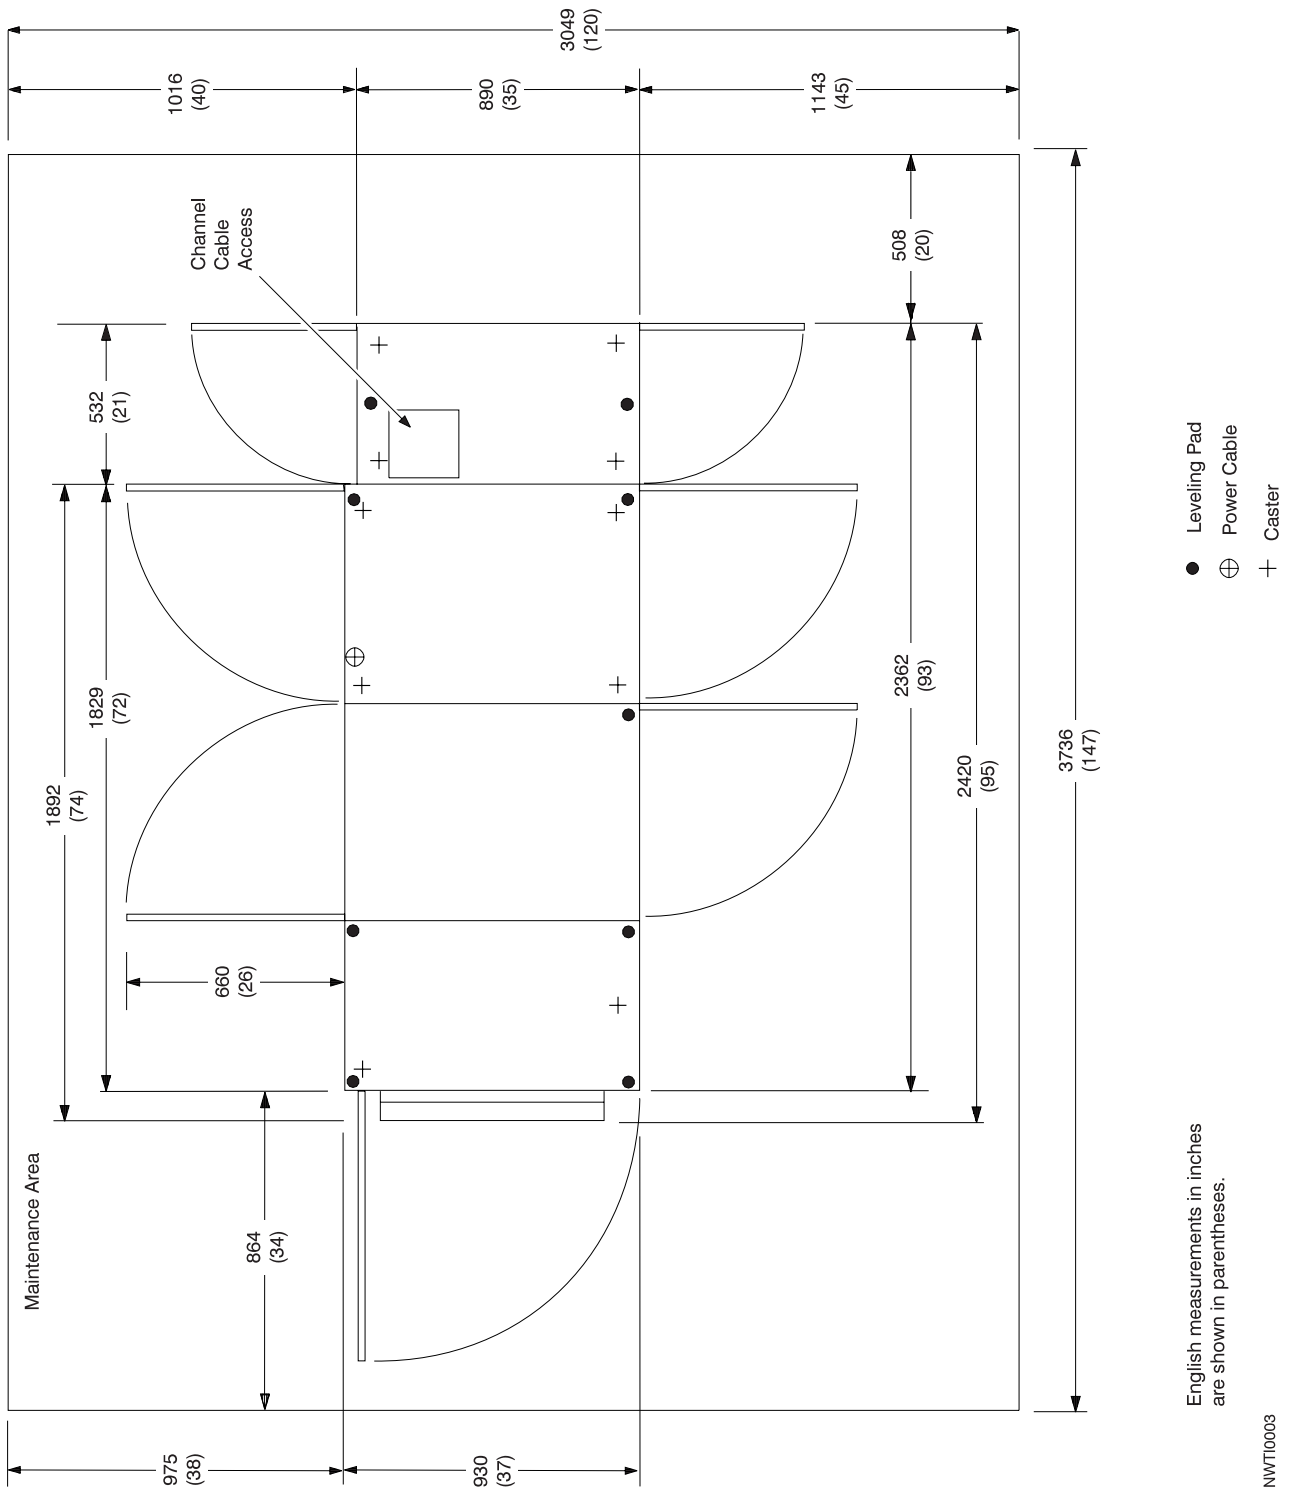
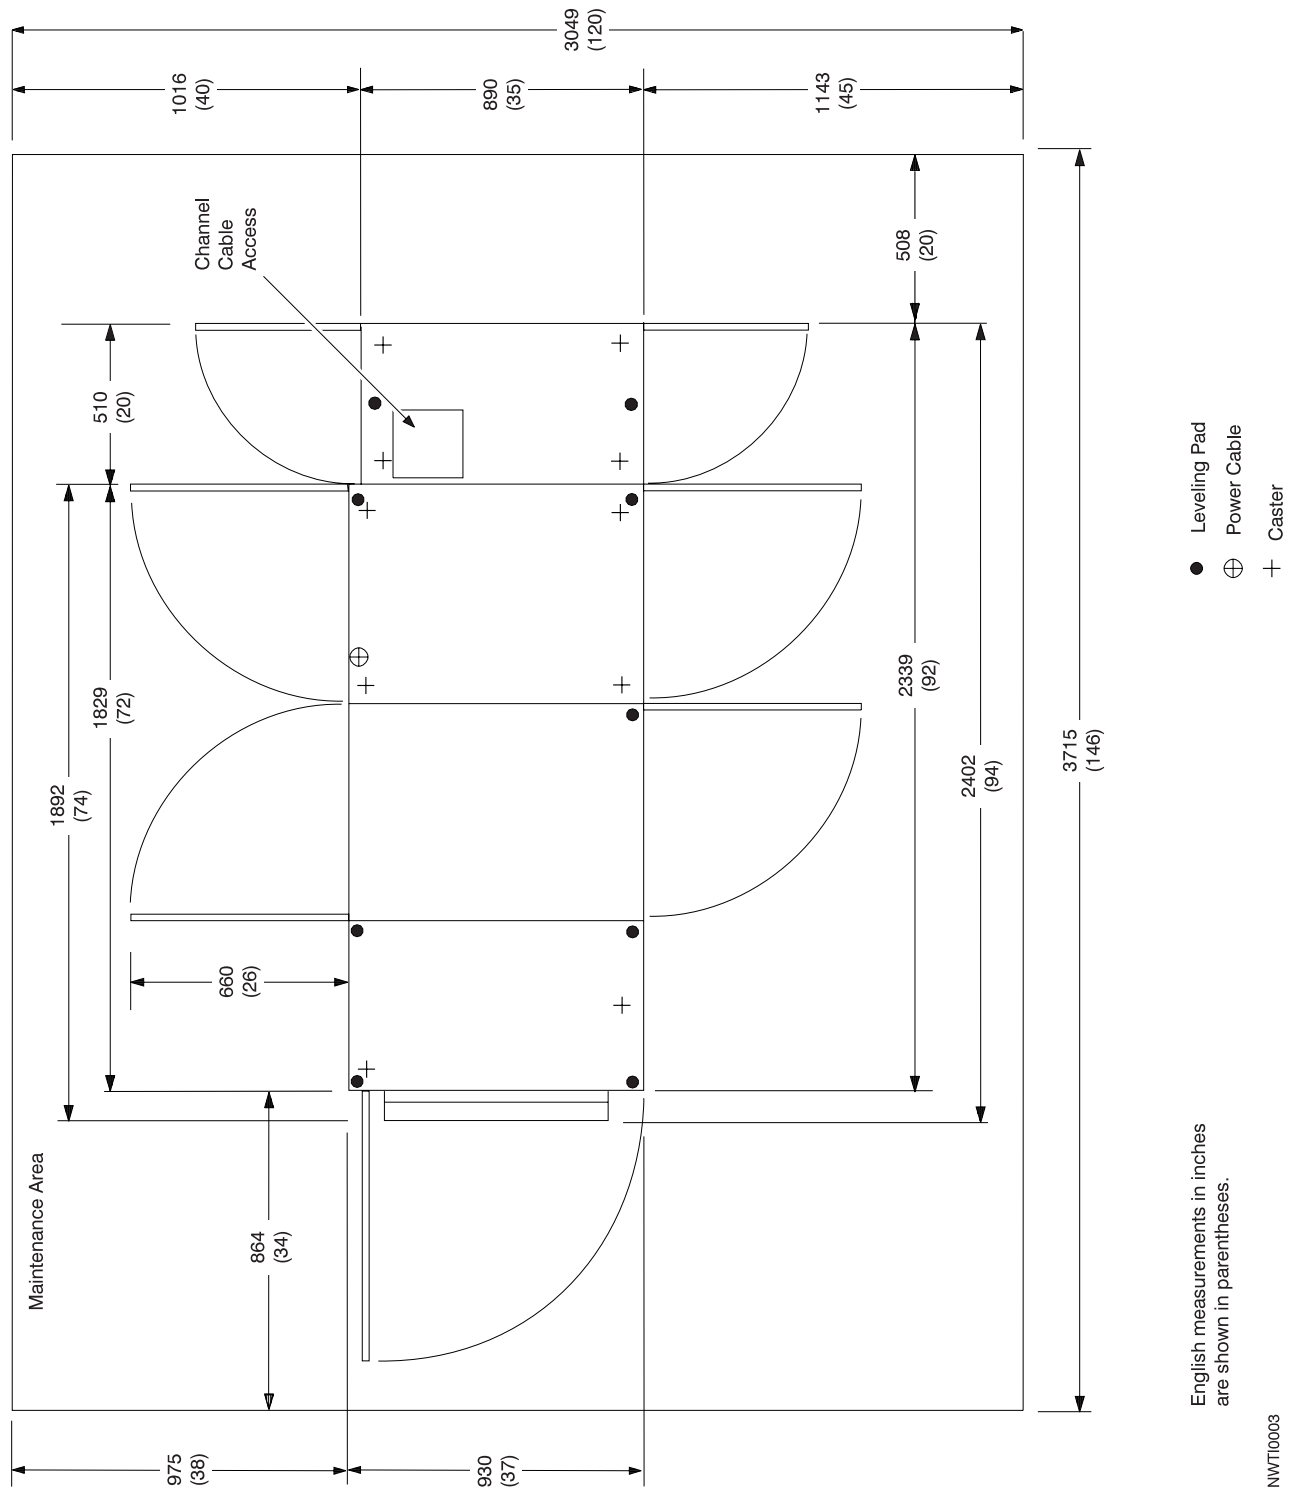
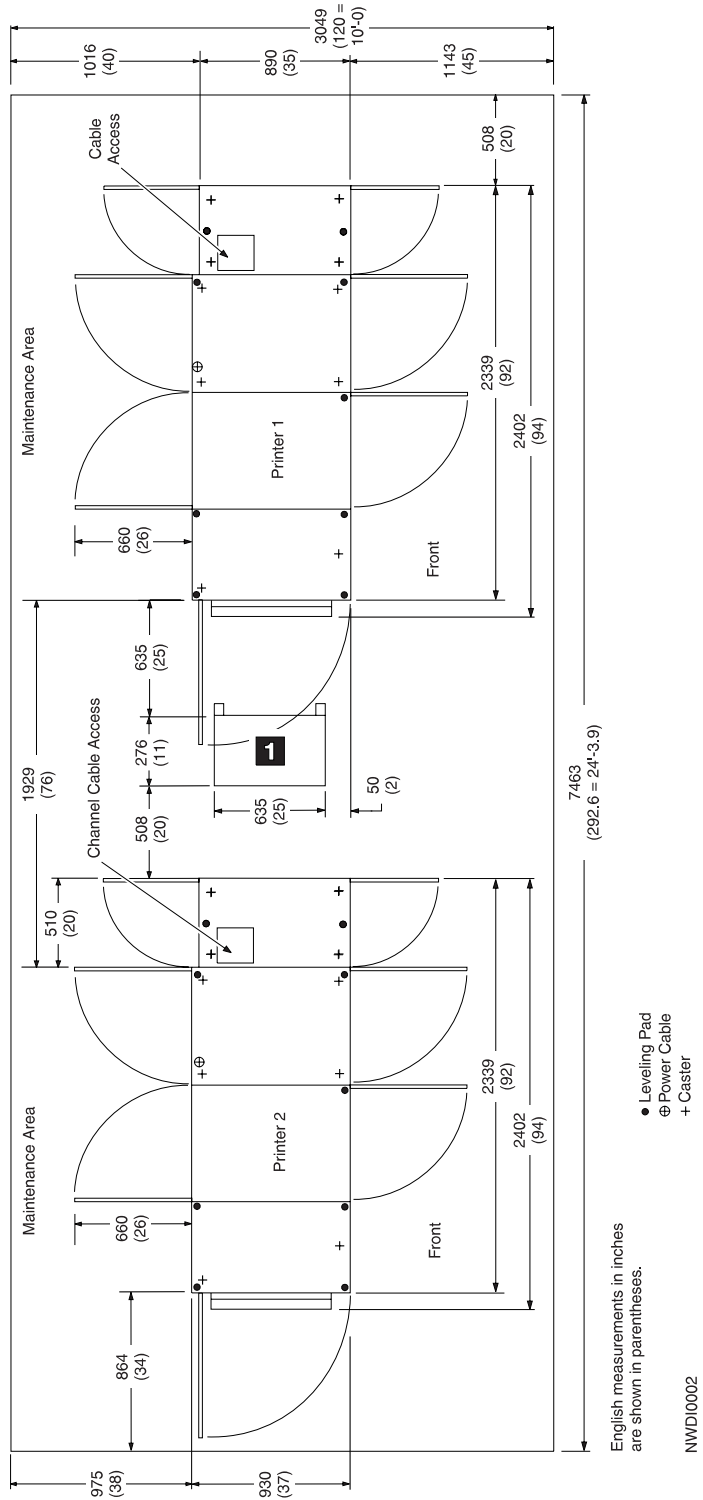
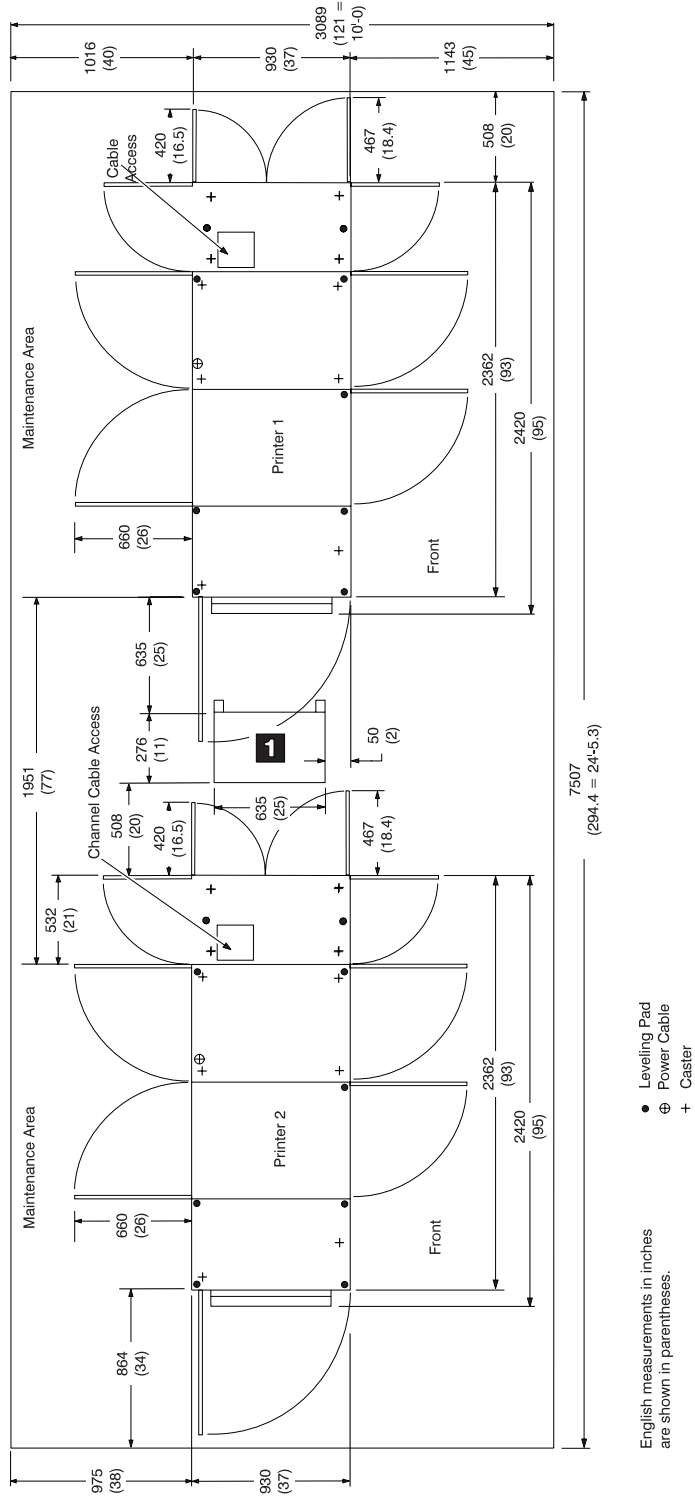

Figure 12. Dimensions, Service Clearance, Power cable, and Cable Locations—Models IS1 and IS2
Figure 13. Dimensions, Service Clearance, Power cable, and Cable Locations—Models 0W1 and 0W3
Figure 14. D01/D02 and DW1/DW2 Inline Configuration
Figure 16. DR1/DR2, ID1/ID2, IR1/IR2, and IR3/IR4 Inline Configuration
Figure 12 on page 61 shows the dimensions of the printer, space and service clearance, and power cable and channel cable locations for Models IS1 and IS2.
Figure 13 on page 62 shows the dimensions of the printer, space and service clearance, and power cable and channel cable locations for Models 0W1 and 0W3.
The dimensions of the Duplex Printing System and the Buffer/Flipper Unit , the optimum separation of the units, the service clearance around the allowable configurations of these units, and the power cable and channel cable locations are shown in Figure 14 on page 64 and Figure 13 on page 62 for Models D01/D02 and DW1/DW2, in Figure 16 on page 66 and Figure 17 on page 67 for Models DR1/DR2, ID1/ID2, and IR1/IR2, and Figure 18 on page 68 and Figure 19 on page 69 for Models ID3/ID4.
- Ensure that approved electrical outlets with correct power are reserved for the printer, and that they can be reached with the power cables. The approximate locations of the printer power cable and the channel cable areas are shown in Figure 12 on page 61 for simplex printers and in Figure 14 on page 64 for duplex configurations.